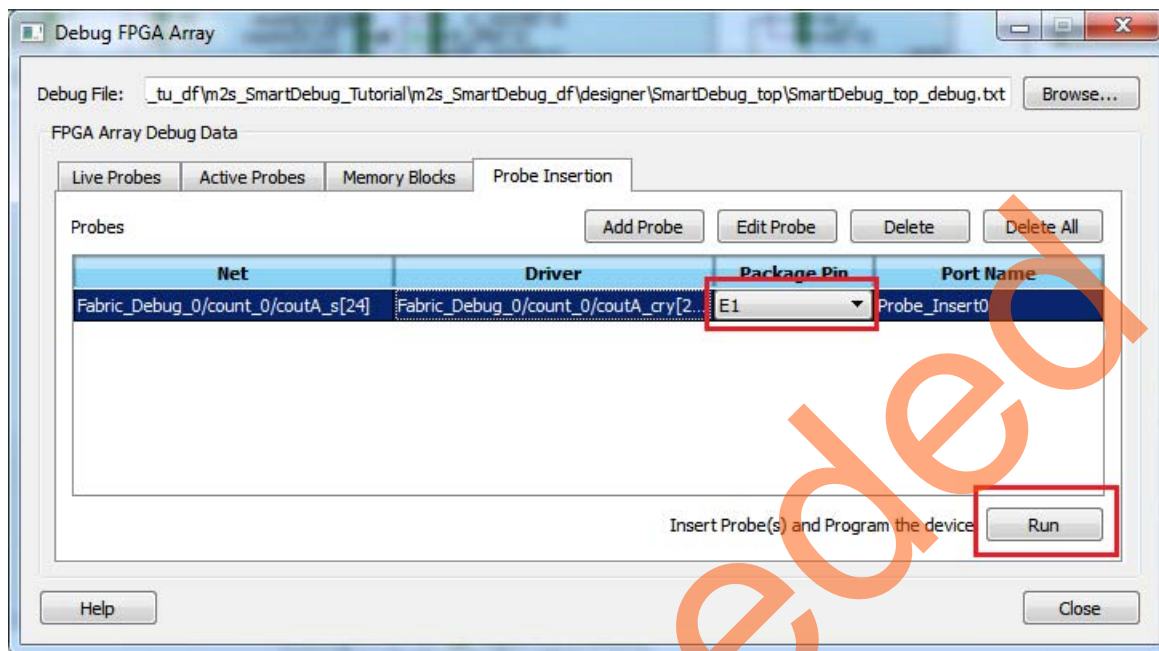

Figure 26 • Assigning Package Pin and Running the Flow
4. In the **Probe Insertion** window, assign **Package Pin - E1**, as shown in Figure 26.